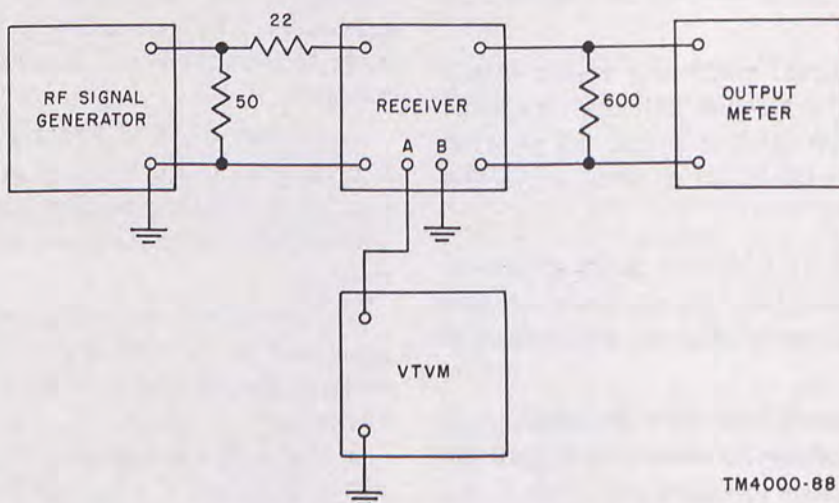

Figure 92. Quieting sensitivity test setup.
c. Connect a dc vtvm across the grid resistor in the limiter circuit (fig. 92).
b. Connect the test equipment to the receiver as shown in figure 92 but omit the output meter connections. Terminals A and B are connections to the limiter grid and ground within the receiver. The 50- and 22-ohm resistors are for matching the signal generator output impedance of 50 ohms to the receiver input impedance of 72 ohms.